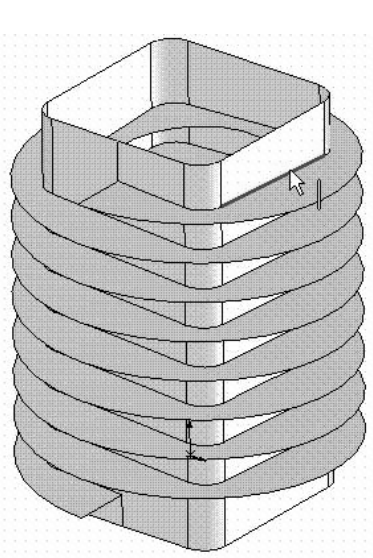

Figure 7 - Preview of the Split Line
20. Move the cursor near the split line; you will notice that the split lines are highlighted separately. This is because split lines are created as separate entities, as shown in the Figure 7.